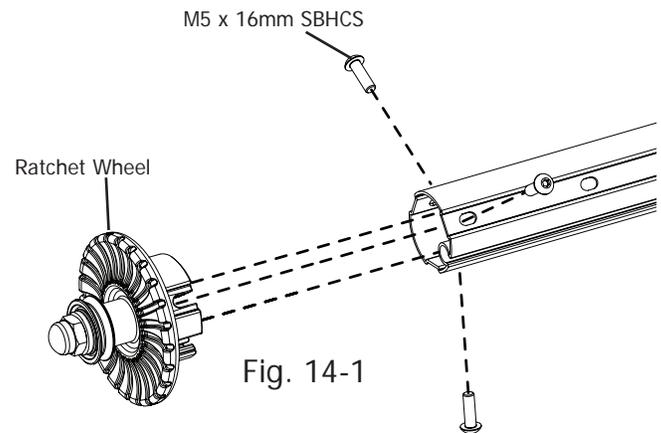

Fig. 14-1
**14-1:** On one end of four (4) of the 2 inch rails, slide a ratchet assembly inside the rail, as shown in Fig. 14-1. Attach the ratchet assembly to the rail with three (3) M5 x 16mm SBHCS. Tighten the screw in a clockwise manner till they are completely tight.